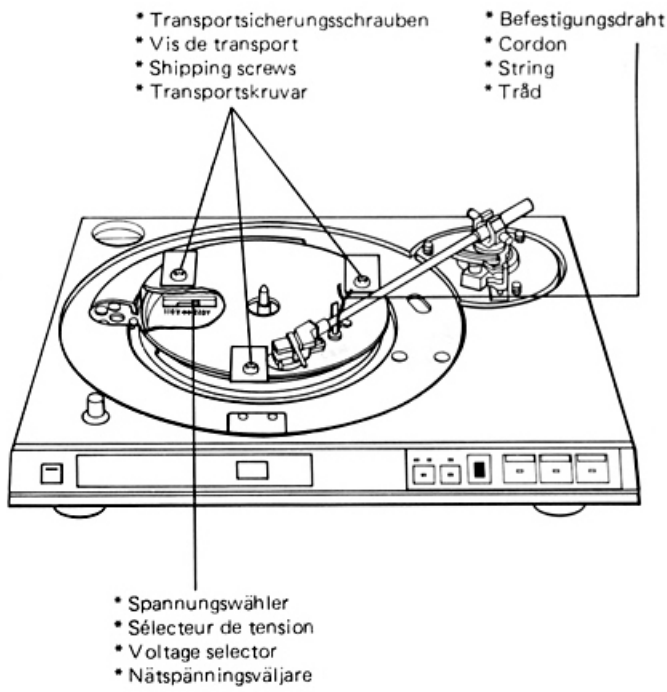

Abb. 1 / Fig
3. Remove the three shipping screws and the tonearm securing pad. (Fig. 1) Do not throw away the packaging, pads, shipping screws, string and tonearm securing pad since you will need them to package the turntable in the event that you move house.